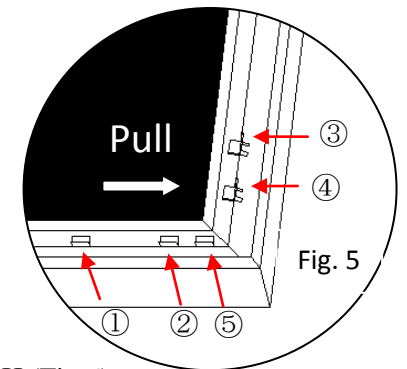

Fig. 5
**Tip for attaching the last corner (D):**
1. Position yourself left of location ①.
2. Pull the material to the corner of the frame with your hand while your left hand snaps in the fix plate on location ① (the third red dot).
3. Then insert and snap in the fix plate on location ②.
4. Next, move and position yourself on location ③, then pull the edge to the frame and fasten plates on locations ③ and ④.
5. Finally, fasten the last fix plate on location ⑤. (Fig.5)